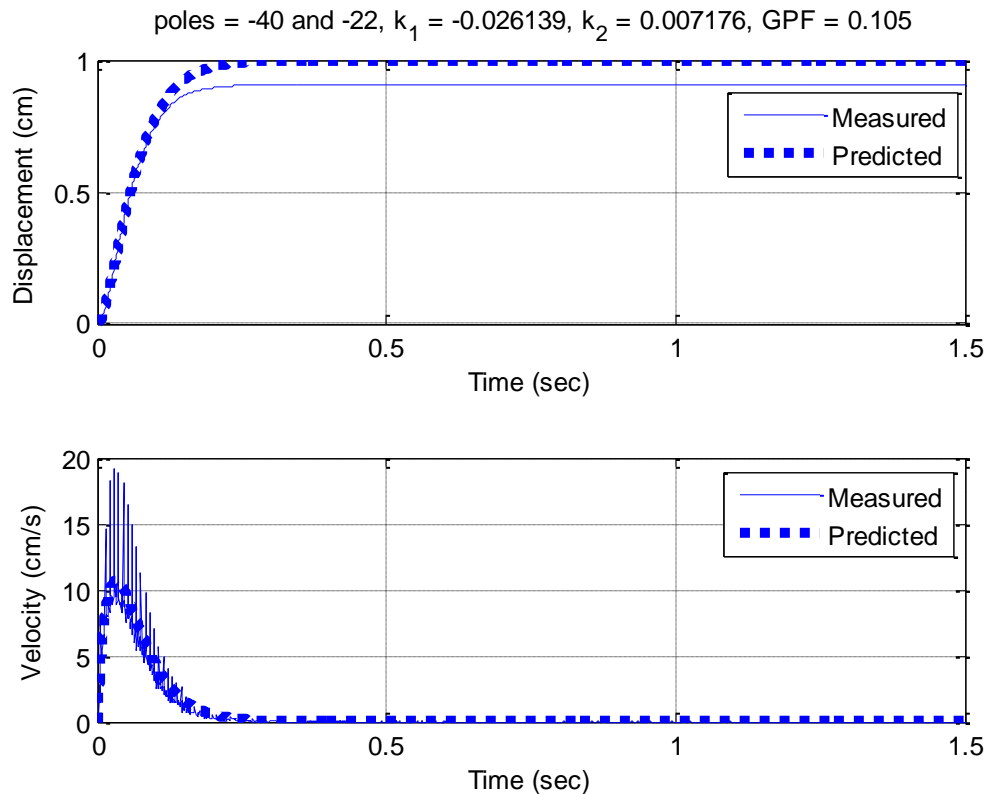

Figure 2: 1DOF Pole Placement Simulation Results
6. Use the **compare1.m** file (or a modification of it) to plot the results of both the simulation and the real system on two nice, neatly labeled graphs using the subplot command. It is two graphs because **you need to compare both the position and the velocity of the cart** (see Figure 2 for an example). You need to include these graphs in your memo submission. (Note: the steady state error is likely to be off. Placing the poles farther away can reduce this error for these systems.)